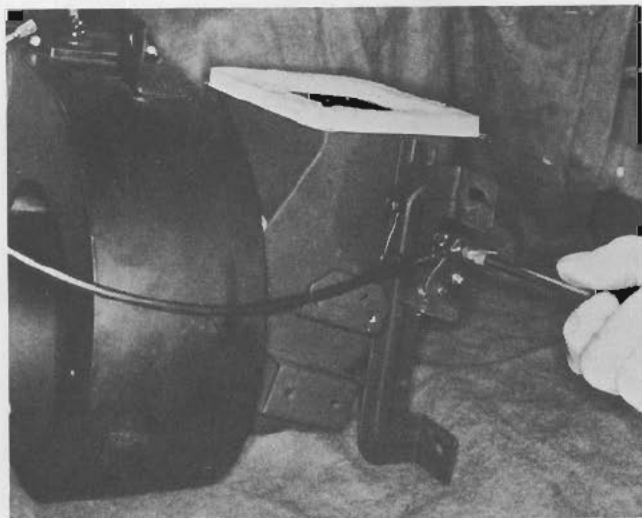

Figure III-4. Air Intake/Blower Assembly Cable Disconnect
5. Disconnect the air vent. control cable at the vent lever terminal on the RH side of the air intake unit, as shown in Figure III-4.